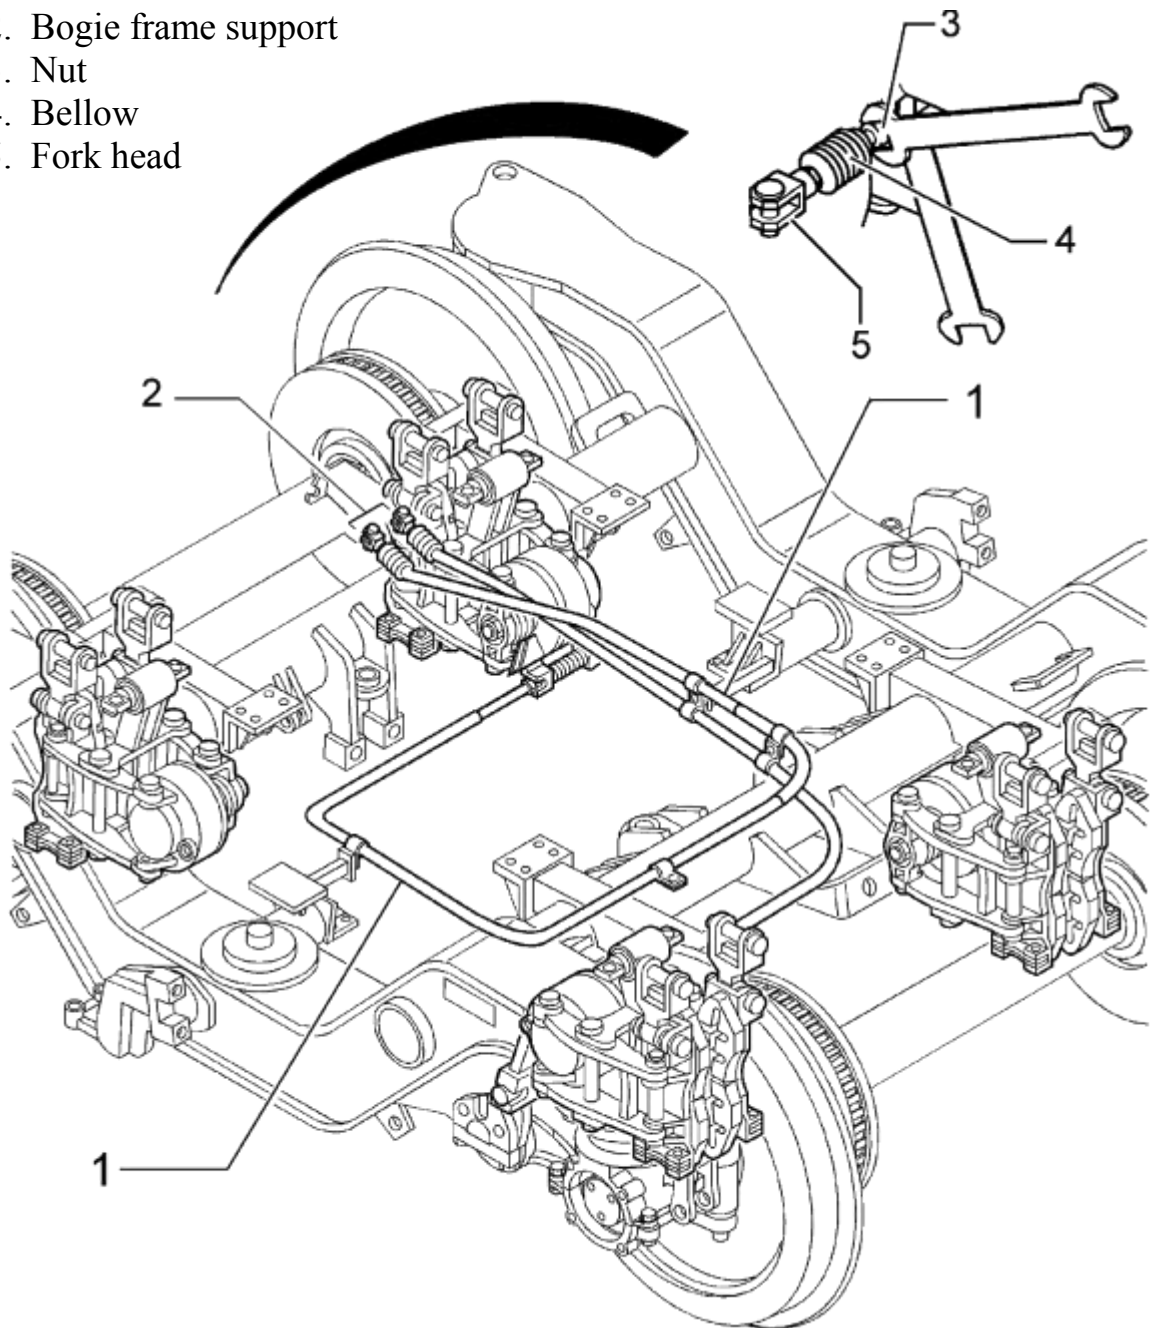

FIG. 4.34 Hand Brake Cables Removal 1/3
In order to remove the two hand brake cables (1 - FIG. 4.34 - only bogie 1267334), begin disconnecting them from the bogie frame supports (2).